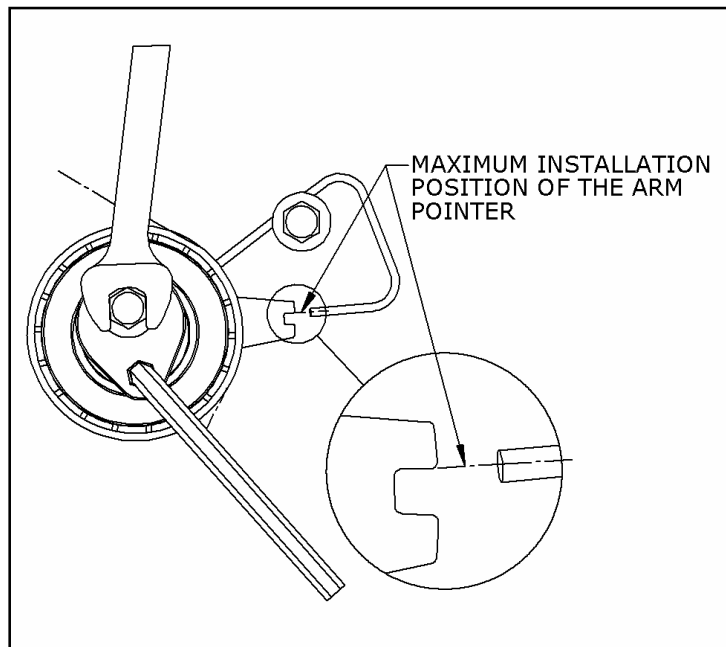

Figure 6: Tensioner is readjusted to the MAXIMUM Position at TDC
- If the open end of the spring tang aligns within the **Maximum/Minimum Position** in the Arm Pointer, the installation is complete (Figures 6 and 7).
13. Rotate the Pivot Shaft with the Hex Key until the open end of the spring tang aligns within the **Maximum/Minimum Position** in the arm pointer (Figures 6 and 7).